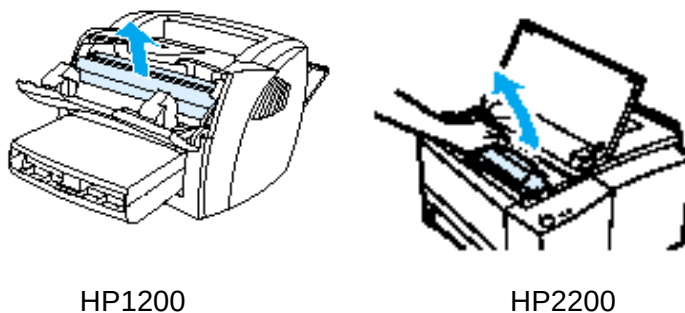

Figure 53. Removing the Toner Cartridge
3. Remove the toner cartridge as shown in Figure 53, and set it aside.